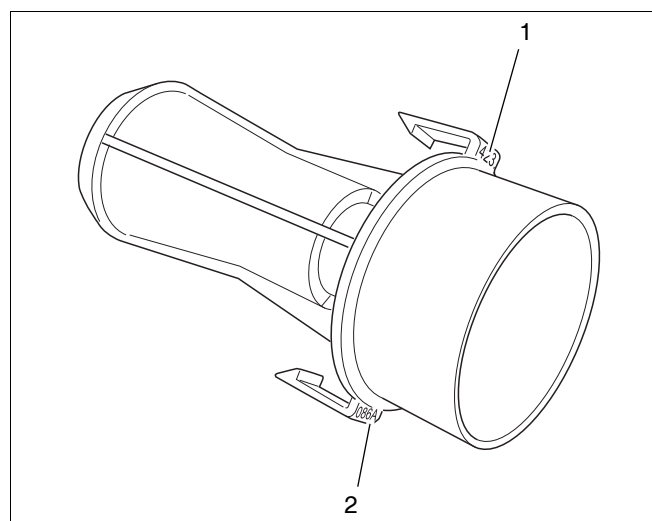

fig. 111 Venturi article number
- The article number of the Venturi is located on both clamps of the Venturi (see fig. 111, pos. 1 and 2).